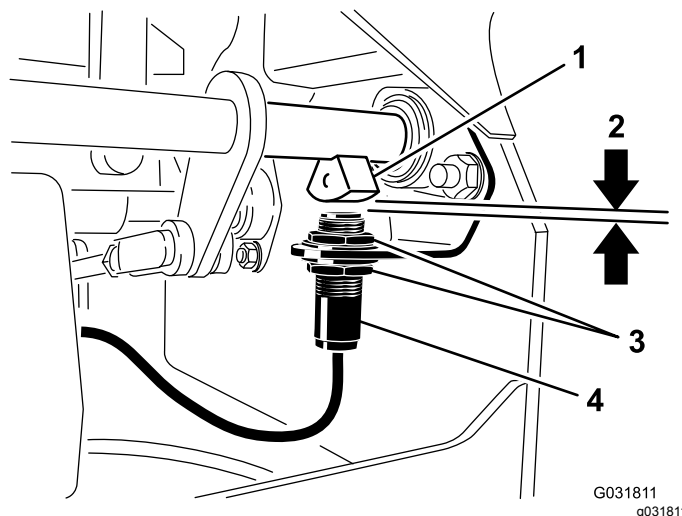

Figure 45
4. Move the switch up or down on the bracket until the distance between the brake-shaft sensor and the switch plunger is 4 mm (5/32 inch) as shown in Figure 45.